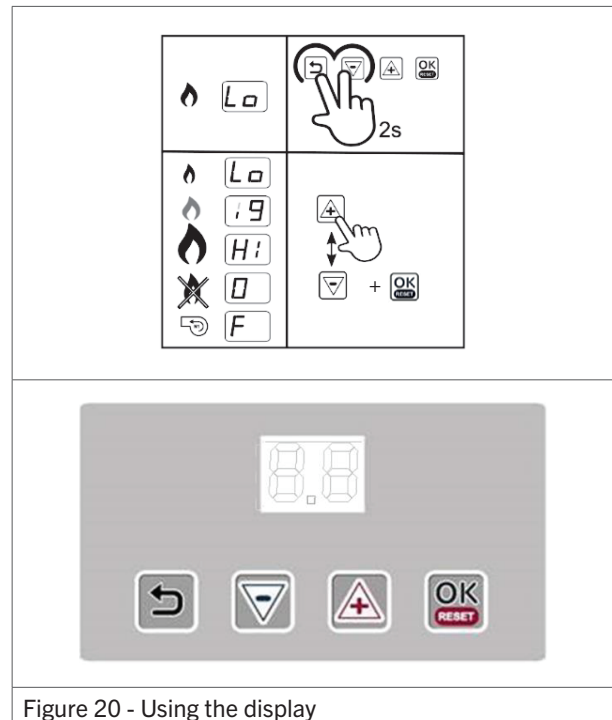

Figure 20 - Using the display
1. Press and hold the **Return** and (–) button for a few seconds (figure 20). The display will alternate between Lo and St. This means the heater will start up in Low fire.
2. Press the (+) and (–) buttons to toggle between Low and High fire (figure 20).